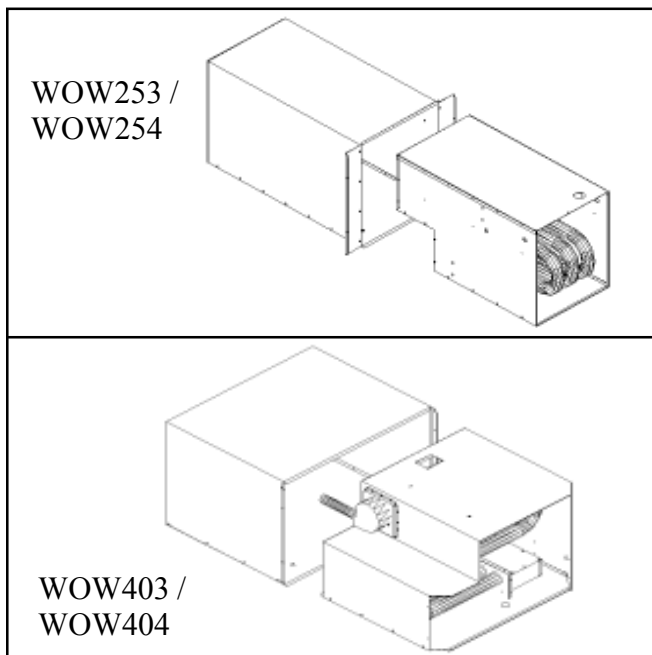

FIGURE 6
- D.) Gently slide combustion tube assembly forward and out of the outer casing assembly (See Figure 6).
- E.) Gently slide combustion tube assembly forward and out of outer cabinet. (See Figure 6).